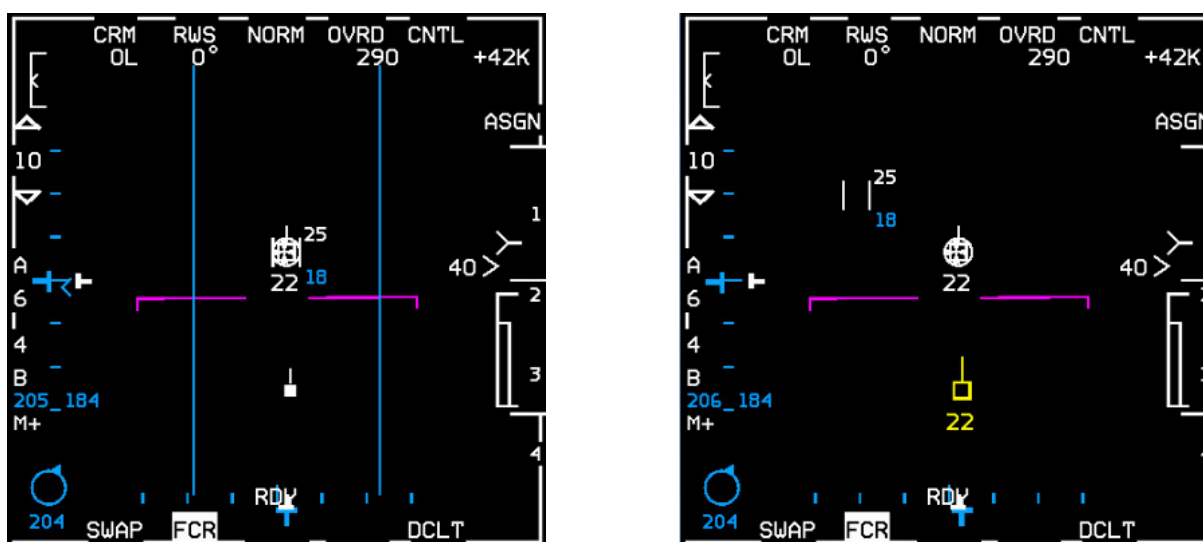

Figure 34 ST SAM entry > auto SAM (left) and DT SAM > DTT submode (right)
3. The third condition also occurs in DT SAM when the radar has two targets to support and has entered the dual target track (DTT) submode of SAM. The DTT submode is the submode where the radar performs sequential updates (also known as ping-pong) on the two SAM targets and does not have any search processing interleaved. DTT will be entered when one of the targets has a range of less than 10 NM. The scan lines are removed in this case; however, the cursors remain displayed. See Figure 34 above.